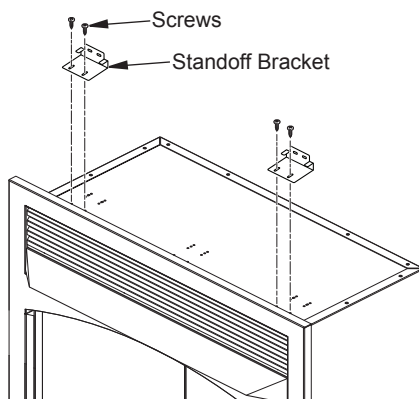

Figure 10 - Installing Standoff Brackets
2. Locate standoff brackets in the hardware bag. Remove screws from the top of the firebox. Install brackets with screws as shown in Figure 10.